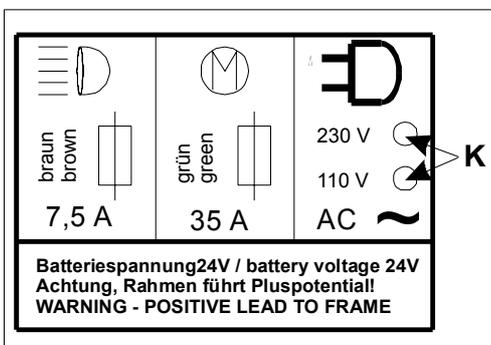
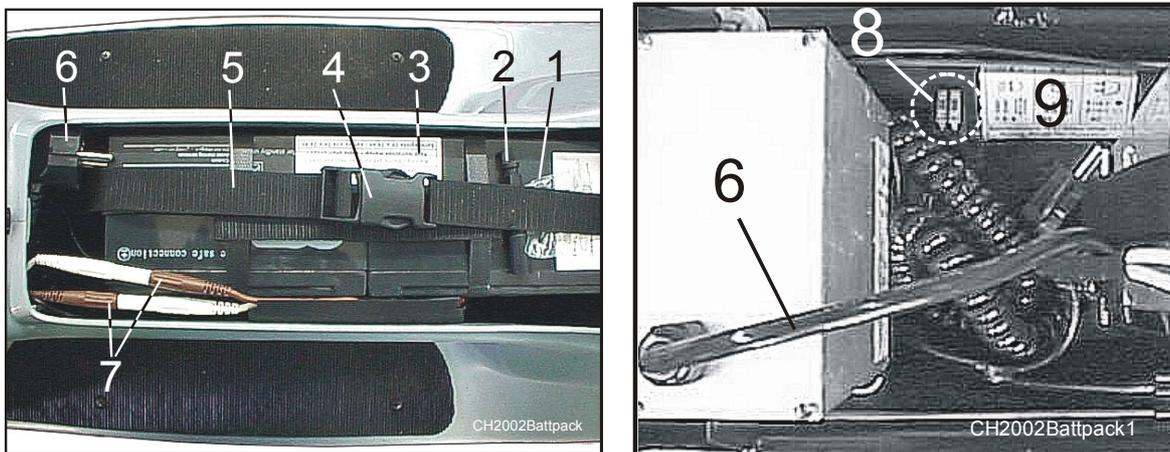

Fig. 17: Notice label in the cable compartment
Fig. 18: Battery pack
- Unplug the plug connections on the battery (fig. 18).
<p>Check that the mains voltage is the same as indicated on the cable compartment rating plate (figure 17).                  When using an external charging set, proceed according to the following sequence to disconnect the battery from the vehicle network:</p> <ul style="list-style-type: none"> <li>- Unplug the plug connections on the battery (fig. 18).</li> <li>- Turn the master switch and the light ON after 10 seconds, approximately</li> <li>- Turn the master switch OFF</li> </ul>
Pull the plug-and-socket connector (fig. 18, item 7) to disconnect the batteries. **Then, turn the master switch and the lights ON until all LEDs go out. Turn the master switch OFF again.**